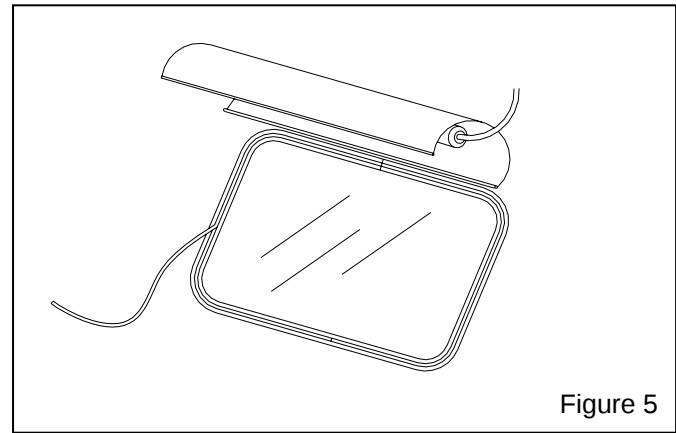

Figure 5
6.3.1. Swing the light-shield up and tie it in place, as shown in Figure 5.
6.3.2. Remove the filler strip by pulling it out of the window molding, as shown in Figure 5.